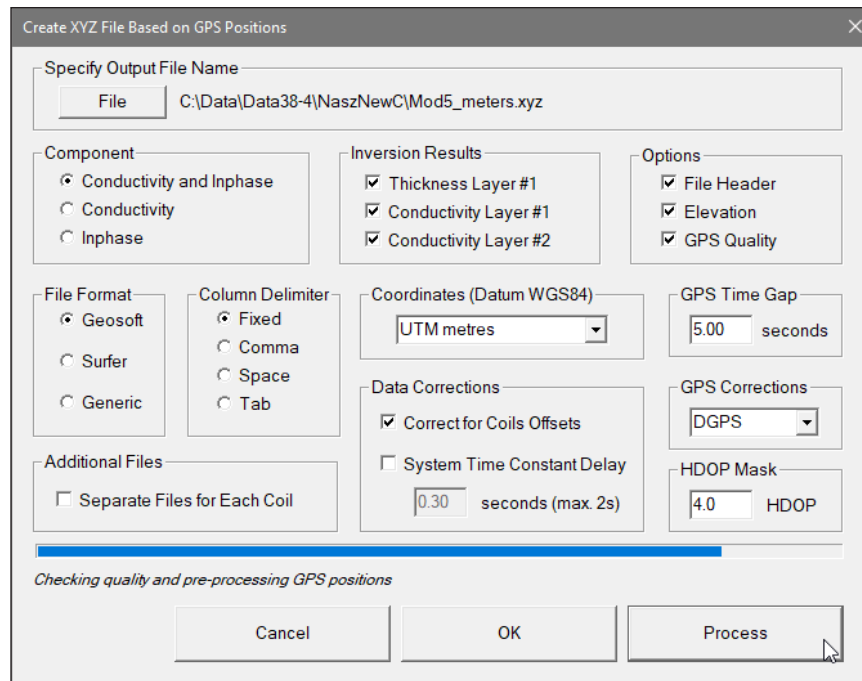

Figure 7.12 Create XYZ File Based on GPS Positions dialog during creating output file
- After all parameters are set, click the **Proceed** button. A progress bar appears (Figure 7.12), showing the export progress.